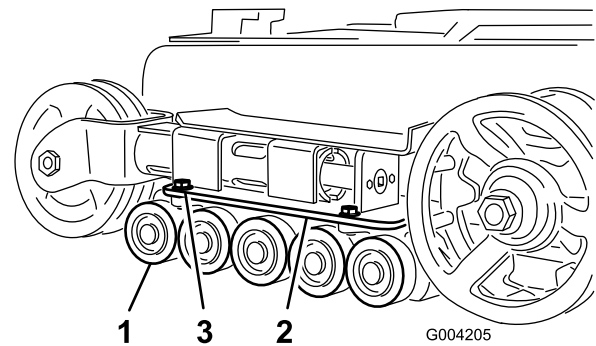

Figure 51
2. Remove the 4 bolts securing each lower track guide which contains the road wheels, and remove them (Figure 51).